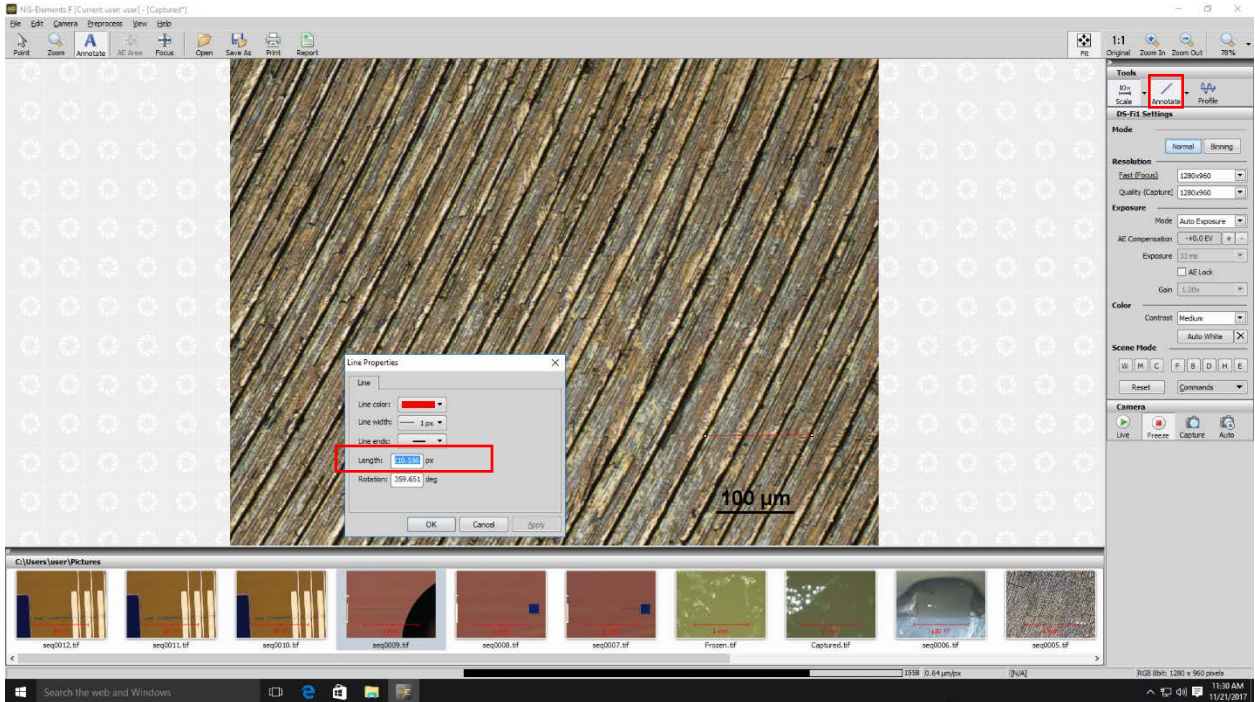

Figure 10: Measure the size of a feature.
- 10) To measure the size of a feature, select the 'Annotation' near the 'Scale' (Figure 10). Draw a line through the feature. Double click on the line. The length of the line can be read in the unit of pixel (Figure 10). Similarly, draw a line through the scale bar, and read the length of scale bar in the unit of pixel. The length of the feature can be calculated.